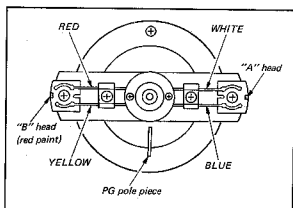

Fig. 4-3. Position of the head assembly
10. Carefully place the Video Head Assembly on the platform with the B head (identified by the red paint) at the left. See Fig. 4-3. The head assembly should fit down snugly against the platform without using force.